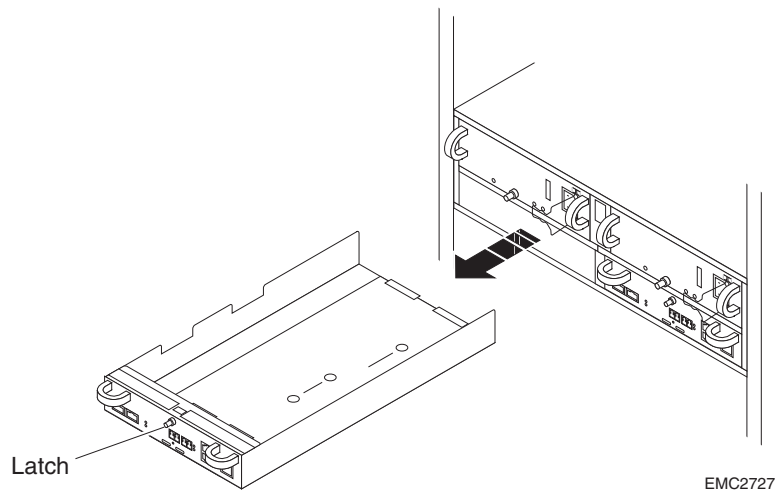

Figure 3-10 Removing an SP
2. Turn the latch counterclockwise to release the module, and then remove the SP from its slot, as shown in Figure 3-10.